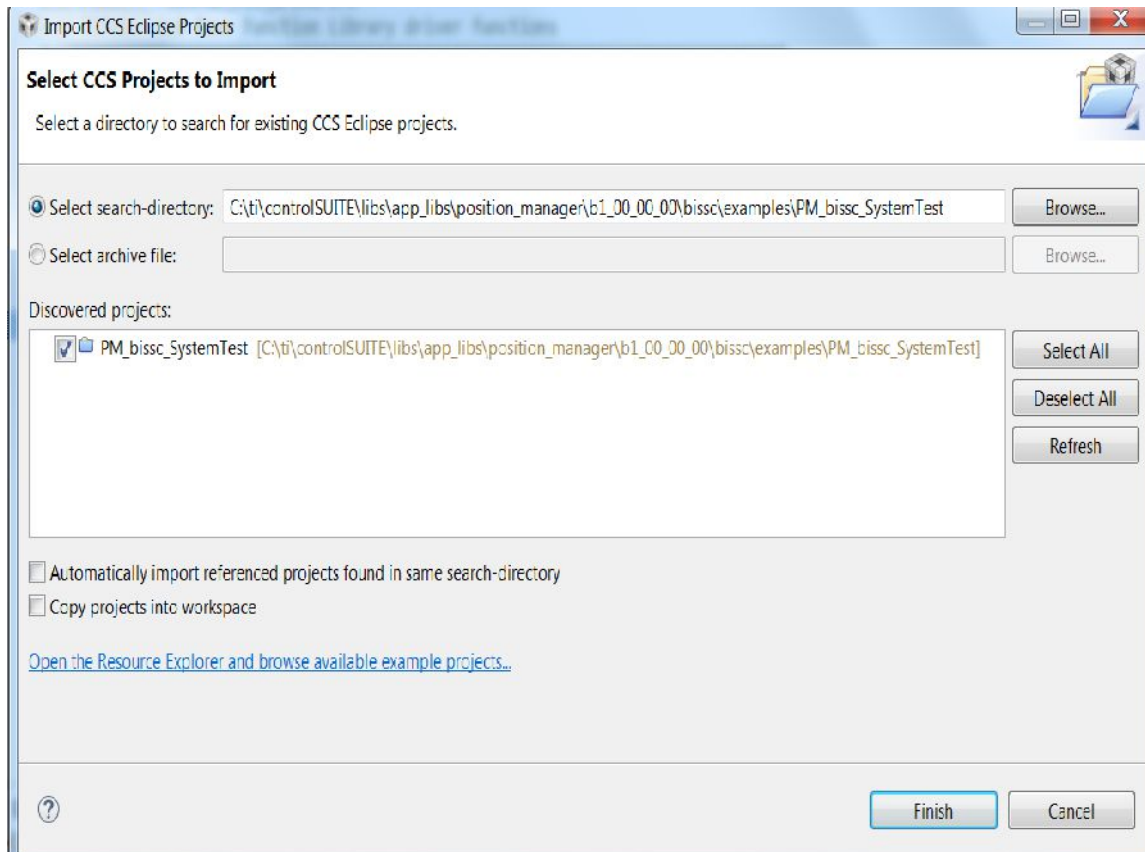

Figure 8. Adding PM Biss-C Example Project to Workspace
2. A window similar to Figure 8 appears. Click the *Finish* button.
NOTE: By default, CCS does not copy the project into the workspace. Any changes made to files within CCS are thus reflected in the files stored in the controlSUITE installation. If users desire to preserve the original files stored in controlSUITE, check the box *Copy projects into workspace*, as shown in Figure 8.